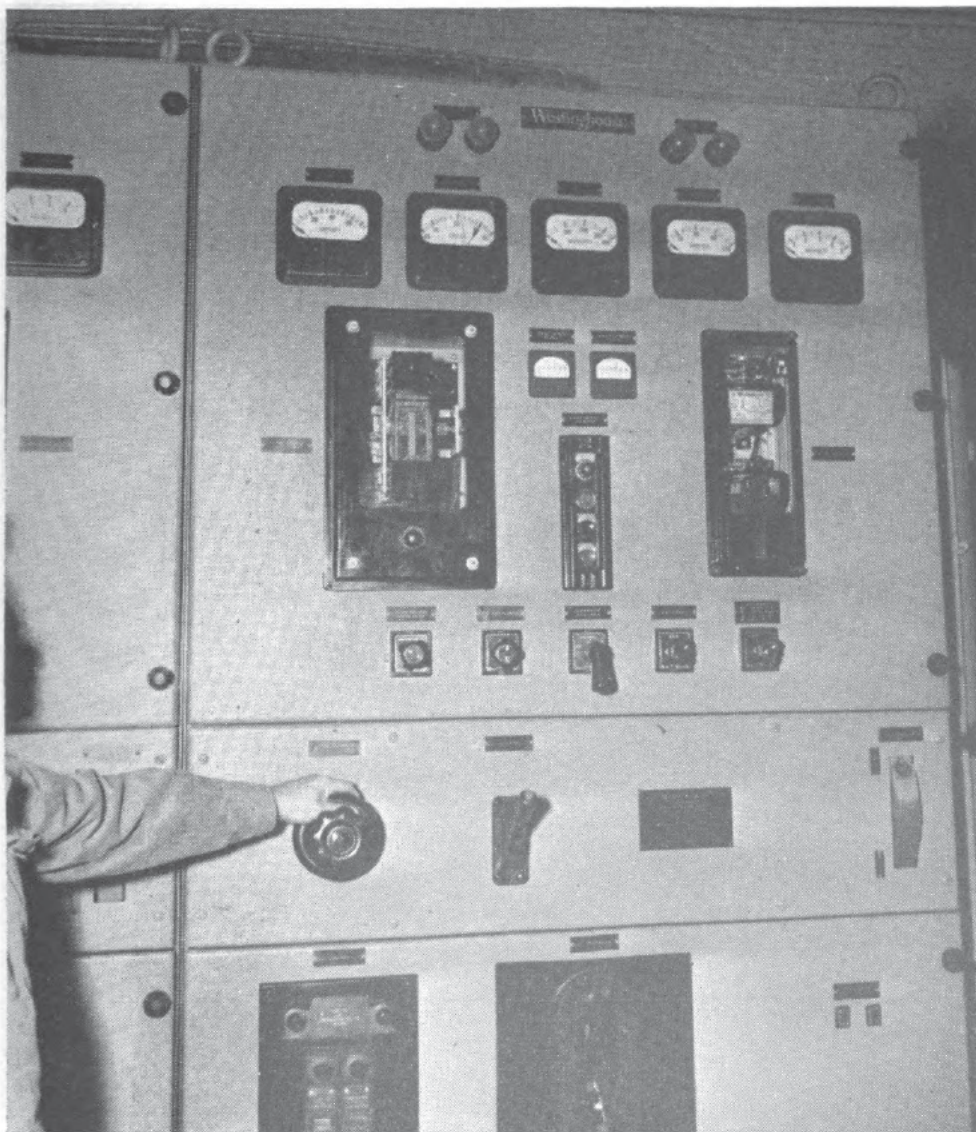

Figure 9-32.—Adjusting alternator output voltage for rated value.
9. Manually decrease the resistance in the exciter's field by turning the exciter field rheostat handle in the counterclockwise direction (fig. 9-32). This action